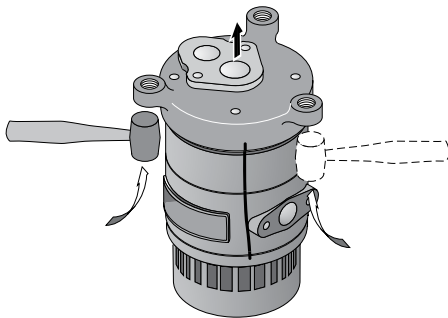

Figure 17
- Step 6. Turn the pump upside down on the bench and block it. Remove the four cap screws from the base. With a mallet, tap upward on the base to loosen it. Lift the base off of the intermediate volute (see Figure 17).